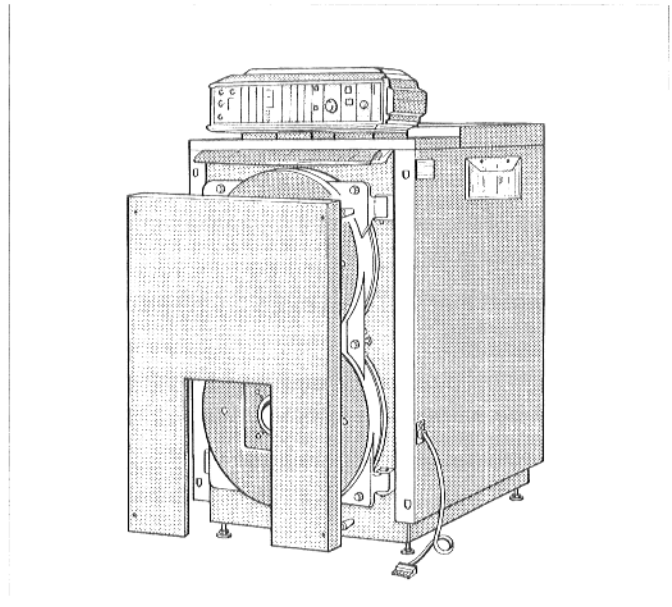

Fig. 17
After putting into operation, the front panel is attached by inserting the four aluminium pins at the front into the slits in the folded edge of the side panel (Fig. 17).
- Attach the front panel with the aluminium pins on the right or left side first into the slit in the folded edge of the side panel and press on (Fig. 17).